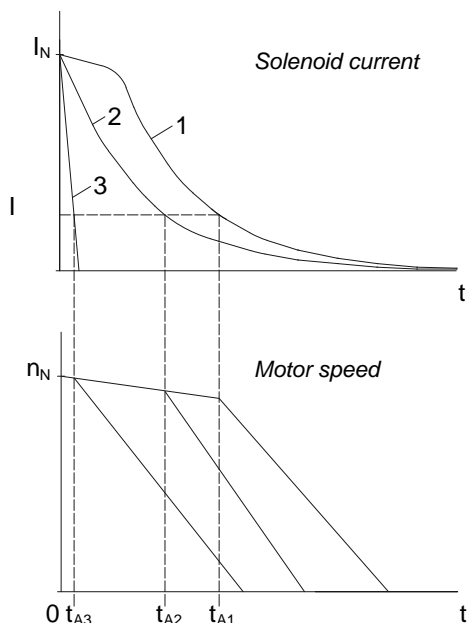

Figure 3: Development of the solenoid current and the motor speed after AC (1, 2) and DC (3) disconnection
- a) Rectifier supply from the motor terminal board (Figure 3, graph 1) Response time t_{A1} : very long
- b) Separate rectifier supply (Figure 3, graph 2)
4.1.2.2 Interruption in the DC switching circuit of the solenoid (Figure 3, graph 3)